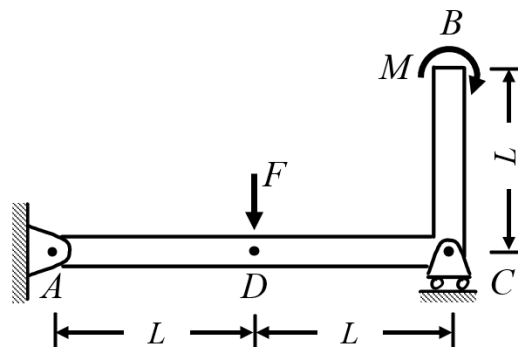

Figure 1
1. The L-shaped beam ACB (shown in Figure 1) is made from two segments: segment AC of length $2L$ and CB of length L . The flexural stiffness EI is constant for both segments. If the beam is subjected to concentrated load F at the center point of segment AC and bending moment M at point B, answer the following questions: